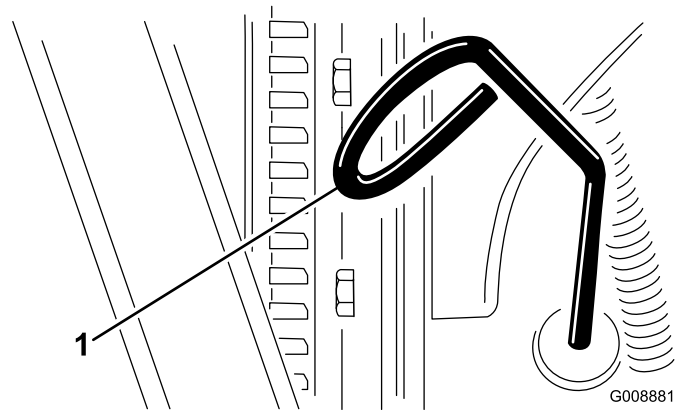

Figure 21
3. Remove the dipstick, wipe it clean, and install it (Figure 21).